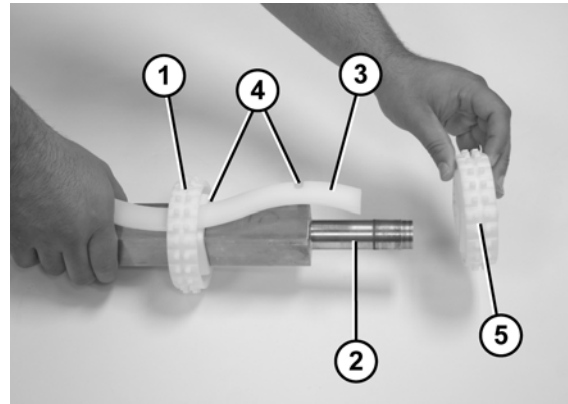

Figure 72
1. Slide the first sprocket (Figure 72, item 1) onto the drive spindle (Figure 72, item 2).
2. Insert the sprocket alignment bar (Figure 72, item 3) into the first sprocket and align the sprocket with the notch (Figure 72, item 4) in the sprocket alignment bar.
3. Slide the remaining sprockets (Figure 72, item 5) onto drive spindle and align each sprocket with the notches (Figure 72, item 4) in the sprocket alignment bar.